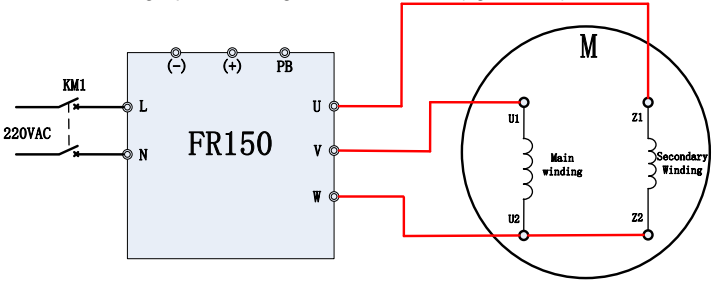

Fig. 6-18
- Inverter connect to single phase:Wiring of FR150 forward (figure 6-18)